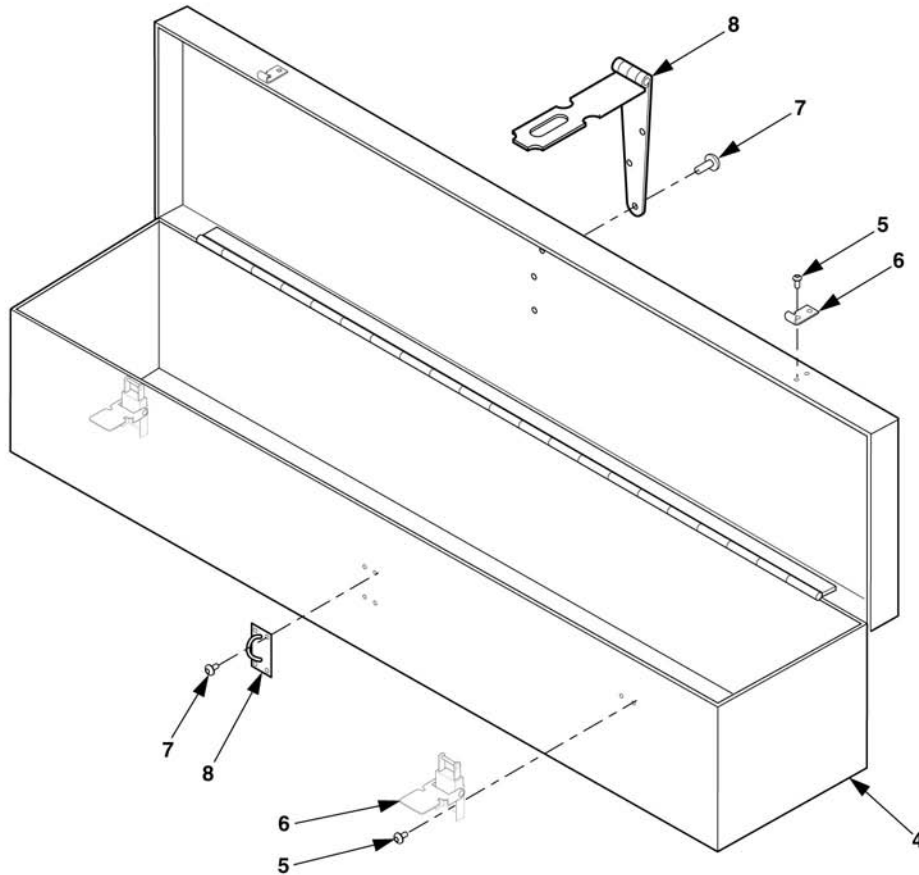

Figure 4-18. Box, Accessory Repair.
- a. Drill out rivets (5, Figure 4-18) that secure defective clamping catch and strike (6) to accessory box (4) and remove clamping catch and strike (6).
- b. Install new clamping catch and strike (6) on accessory box (4) and secure with rivets (5).
- a. Drill out rivets (7) on hasp (8).
- b. Install new hasp (8) on accessory box (4) with rivets (7).